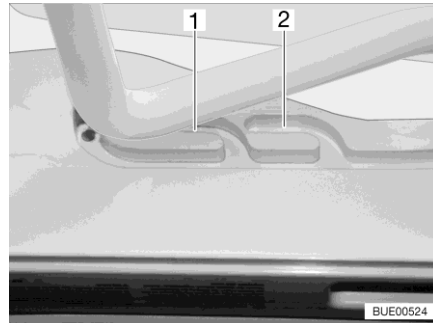
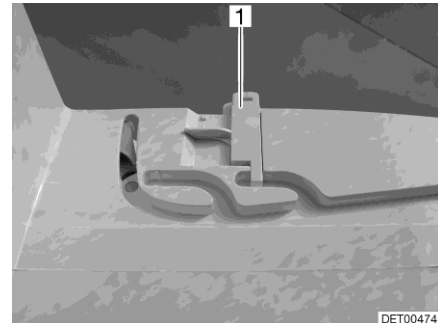

Fig. 116 Guide (ventilation position)
Fig. 117 Lock (ventilation position)
The Heki skylight can be put in two ventilation positions: Bad weather position (Fig. 116,1) and central position (Fig. 116,2). Depending on the model, the skylight can be locked in the central position with both left and right latches (Fig. 117,1) on the skylight frame.
- Push the bar slightly upwards and into the selected guide (Fig. 116,1 or 2) and lock if necessary.